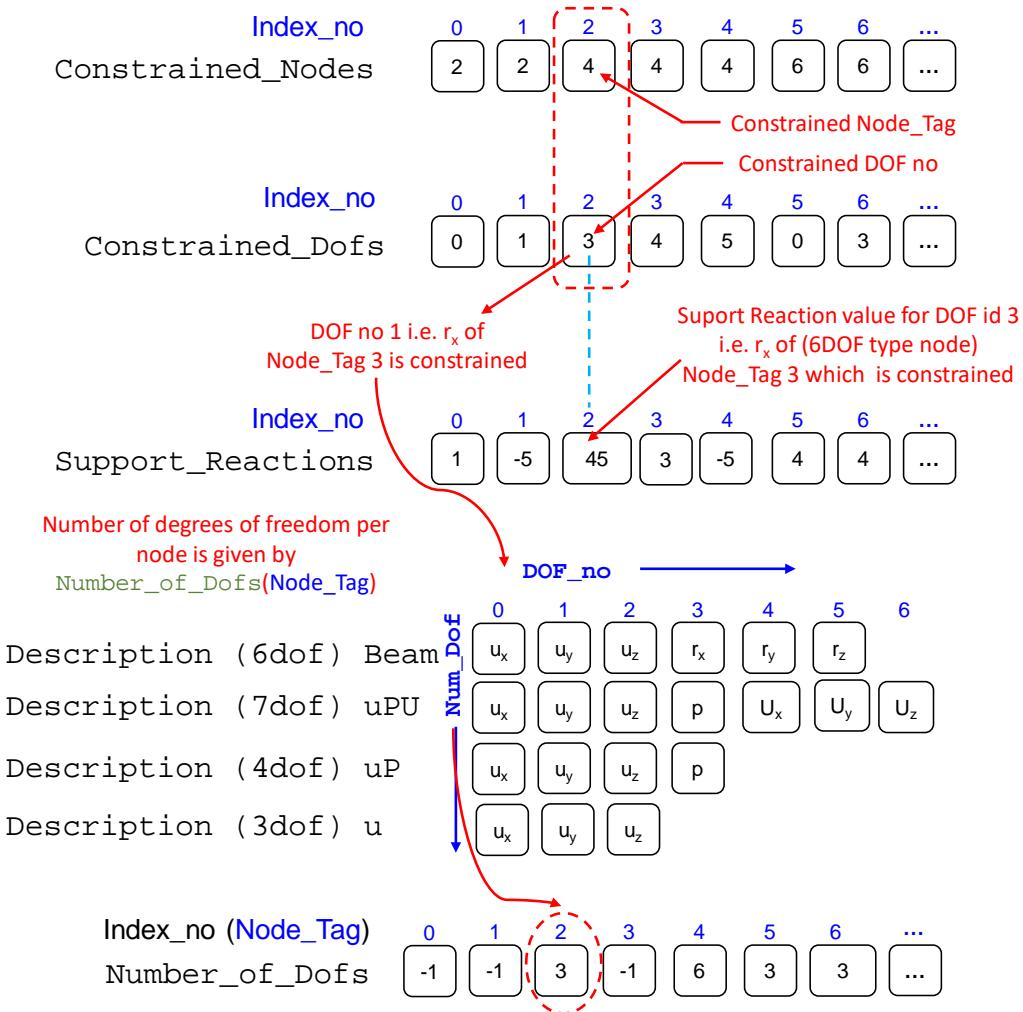

Figure 1.8: Arrays describing constrained nodes and reaction information in Nodes group directory of HDF5 file.
Constrained_Nodes array contains a list of node tags for each dof on which fixities were applied. Figure 1.8 shows how to read Constrained_Nodes. In the given example Listing 1.1, dof ux and uy of node tag 2 is fixed. Similarly, for node tag 4 dofs rx ry and rz are fixed. Thats why in the Constrained_Nodes array contains node tags 2,2,4,4,4 and so on multiple times for each dof of the corresponding node tag fixed.
Constrained_DOFs array contains a list of dofs of the corresponding node tag on which fixities were applied. Figure 1.8 shows how to read Constrained_DOFs. In the given example Listing 1.1, dof ux (0) and uy (1) of node tag 2 is fixed. Similarly, for node tag 4 dofs rx (3) ry (4) and rz (5) are fixed. Figure 1.8 also show the DOF if numbering for different dof types i.e. for 3dof, 4dof, 6dof and 7dof nodes.
Support_Reactions contains a (float) array of reaction forces for the constrained degree of freedoms (DOFs). Figure 1.8 shows how to read Constrained_DOFs. In the given example Listing 1.1, dof ux (0) and uy (1) of node tag 2 has support reactions 1N and -5N respectively. Similarly, for node tag 4 dofs rx (3) ry (4) and rz (5) have reactions 45, 3 and -5 N - m respectively. The reaction forces for displacement dofs (u_x, u_y, u_z) are forces in units of N, for rotational dofs (r_x, r_y, r_z) are moments in units of N - m and for pressure dof (p) is pascal (Pa). Section 1.6 describes the output definitions for nodes with different dof-types.
The rows of the Generalized_Displacements array contain the results for each DOF of the current node. For a 3-DOF node these will be displacement in X , Y , and Z (u_x, u_y , and u_z) respectively. For higher number-of-dof nodes the first three components are the same but the remaining ones are going to depend on the connecting elements. For example, 6-DOF nodes might carry information on nodal rotations (beams and shells) or might be fluid displacements in case the elements connecting are $u-U$ coupled fluid-porous-solid elements as shown in Figure 1.8. Section 1.6 describes the output definitions for nodes with different dof-types.